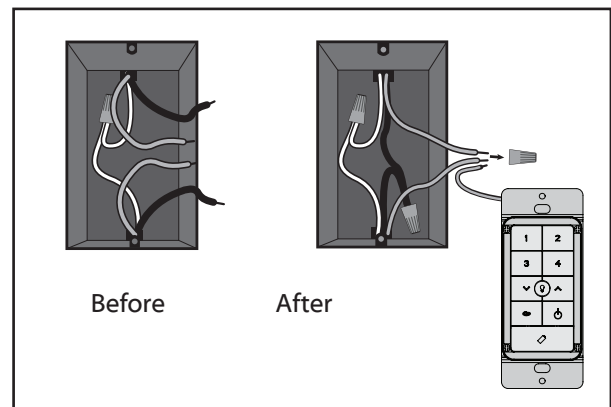

Figure 18
4. Using orange wire connectors, connect the two black wires (ungrounded) from the outlet box. Also connect the two green or bare wires (grounding) from the outlet box with the grounding wire from the wall control. Figure 18.